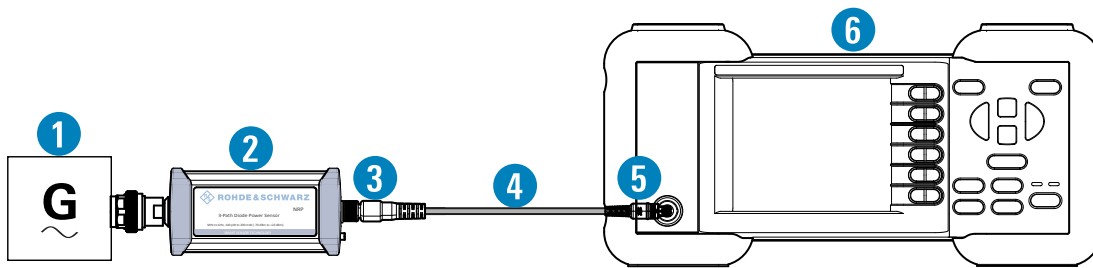

Figure 6-5: Setup with an R&S NRP2 base unit
1. Connect the cables as shown in Figure 6-5: